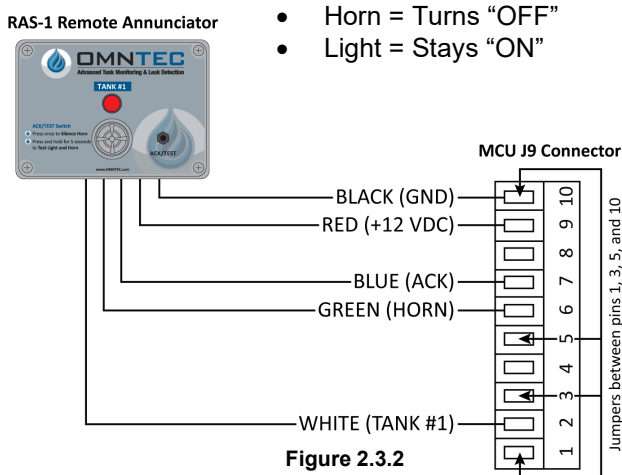

Figure 2.3.2
B. Individual High-Level Alarm Wiring (refer to Figure 2.3.2 and Table 2.3.2)